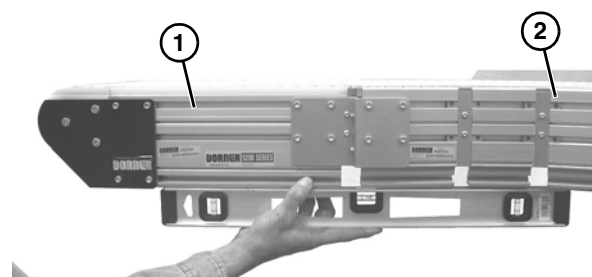

Figure 10
The bottom of the straight frame sections (**Figure 10, item 1**) and curve frame sections (**Figure 10, item 2**) must be level.